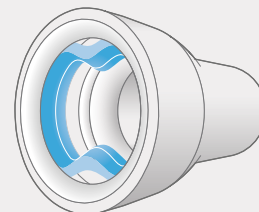

Figure 1
**NOTE:** Each of the following is a nationally recognized standards organization: American National Standards Institute (ANSI), American Water Works Association (AWWA), American Society for Testing and Materials (ASTM), Underwriters Laboratories (UL), National Fire Protection Association (NFPA), National Sanitation Foundation (NSF), Factory Mutual (FM)
**INSERTION OF GASKET (Figure 1)**